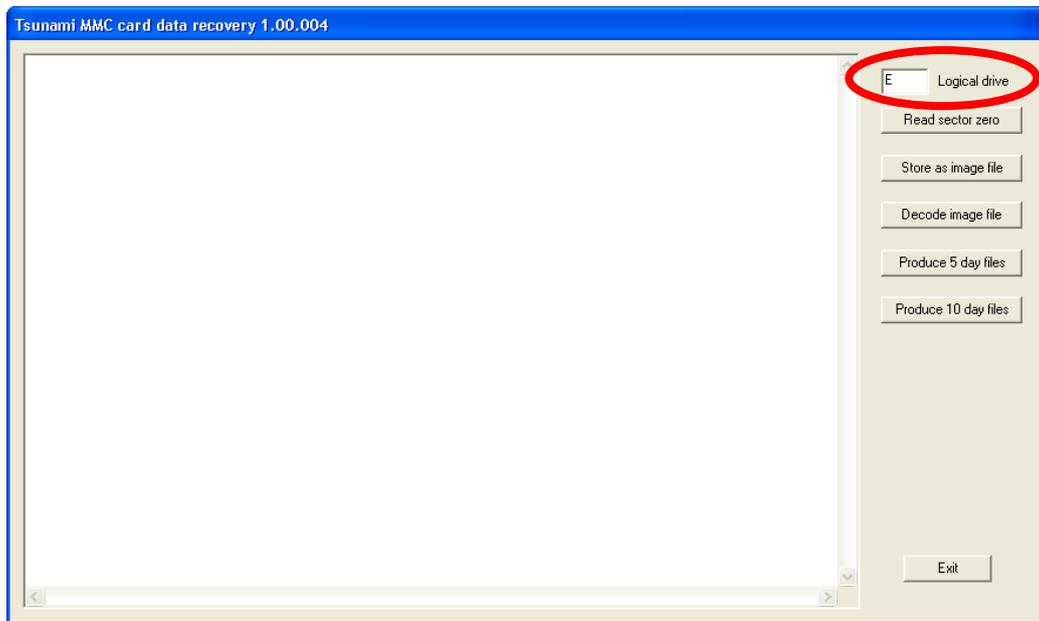
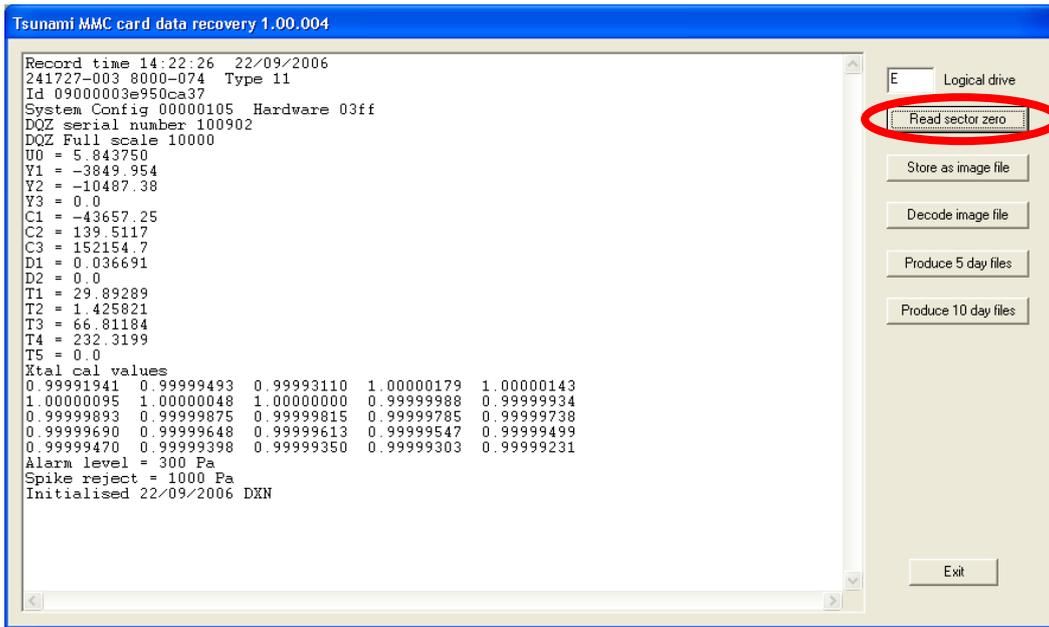

Figure 3 - MmcDataRecover.exe with logical drive selector highlighted
Figure 4 - MmcDataRecover.exe with Read sector zero highlighted and calibration information displayed
3. Select the logical drive (Figure 3), and then click < **Read sector zero** > (Figure 4) which shows the calibration data.
- Once complete, the < **Read Sector Zero** > display (Figure 4) is shown again.